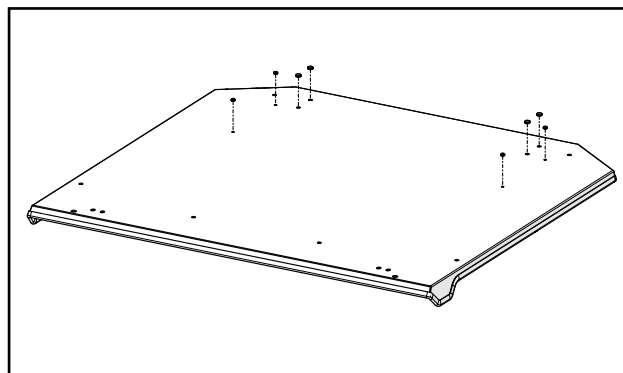

Fig. 1.2 (Remove Rubber Roof Plugs)
- 1.2 Prep the roof for installation by removing the (8) rubber plugs as shown in Figure 1.2.